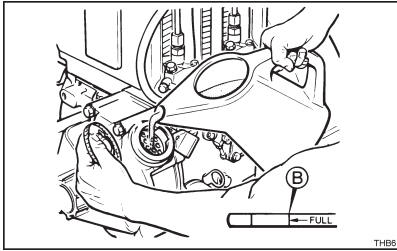

Figure 5.5.2 The oil filler
- 2.Fill the sump through the oil filler (Figure 5.5.2) to the upper mark on the dipstick (B).